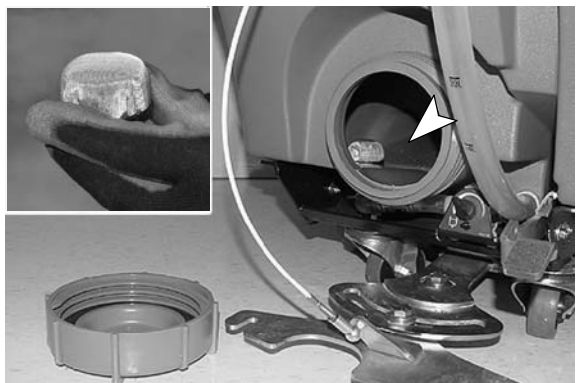

FIG. 41
5. Remove and clean the solution tank filter (Figure 41). Turn the filter counter-clockwise to remove.